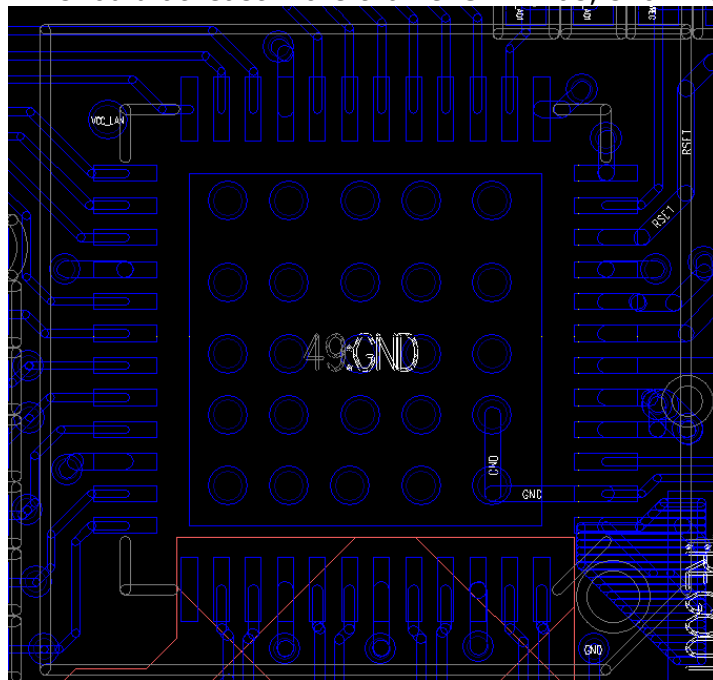

Figure 21-10
- ePAD of PHY should at least more than 9 GND vias, shown as Figure 21-10.